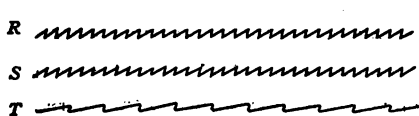
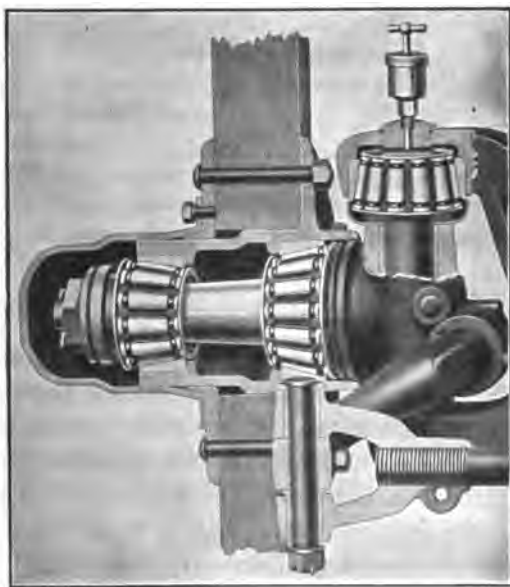

FIG. 109.—The friction between *R* and *S* is greater than between *R* and *T*.
FIG. 110.—Timken roller bearings.
6. Four men raise an anchor weighing $1\frac{1}{2}$ tons, with a capstan (see Fig. 110) having a barrel 9 in. in diameter. The circle described by the hand-spikes is 13 $\frac{1}{2}$ ft. in diameter. How much force must each man exert?
friction. In machines all moving surfaces are made as smooth as possible. In different kinds of materials these little ridges and depressions are differently arranged. (b) In Fig. 109 the friction between *R* and *S* would be greater than between *R* and *T*. In *R* and *S* the surfaces will fit closer together than in *R* and *T*. *So the use of different materials will reduce friction.* The iron axles of car wheels revolve in bearings of brass. Jewels are used in watches for the same reason. (c) Another very common method of reducing friction is by the use of *lubricants*. The oil or grease used fills up the irregularities of the bearing surfaces and separates them. *Rolling friction* is frequently substituted for sliding friction by the use of ball and roller bearings. There are used in many machines as in bicycles, automobiles, sewing machines, etc. (See Fig. 110.)